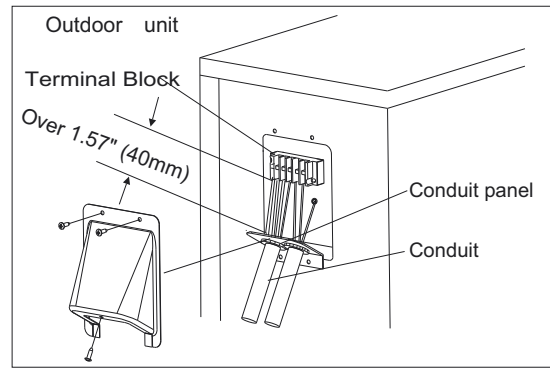

Fig. 11 – Field Wiring
5. Connect the conduit to the conduit panel (see Fig. 11).